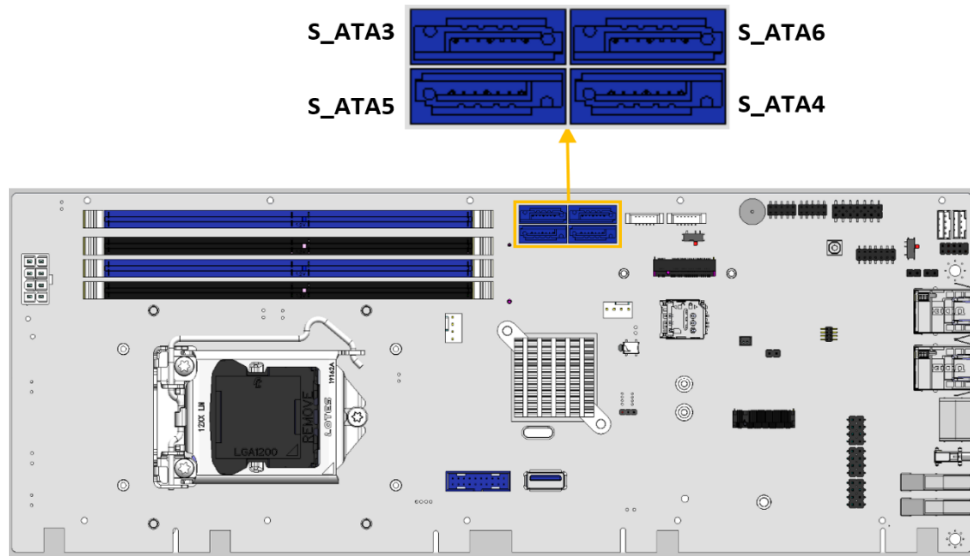

Figure 3-19: SATA 6Gb/s Connector Locations
- CN Location:** See Figure 3-19